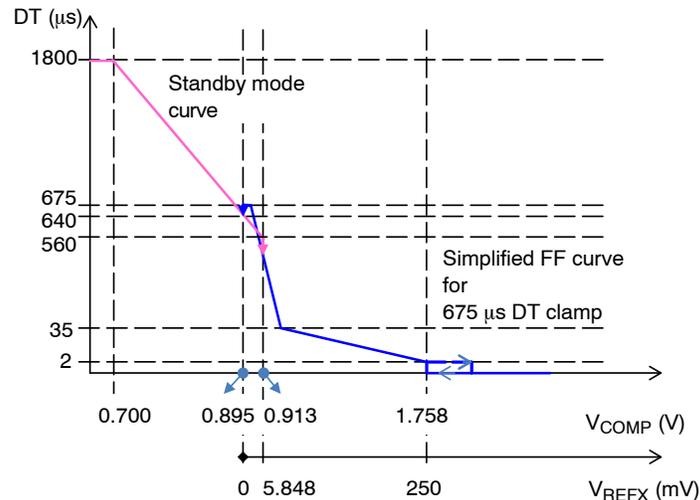

Figure 6. Dead–time Setpoint As a Function of V_{COMP} for 675 μ s Dead–time Clamp
more specifically the dead–time (DT) to keep the output voltage regulated (pink curve in Figure 6). The regulation of V_{out} is based on COMP pin voltage varying between 700 mV to 913 mV. Standby mode is entered if $V_{COMP} < 895$ mV, V_{COMP} decreasing and exit if $V_{COMP} > 913$ mV, V_{COMP} increasing.